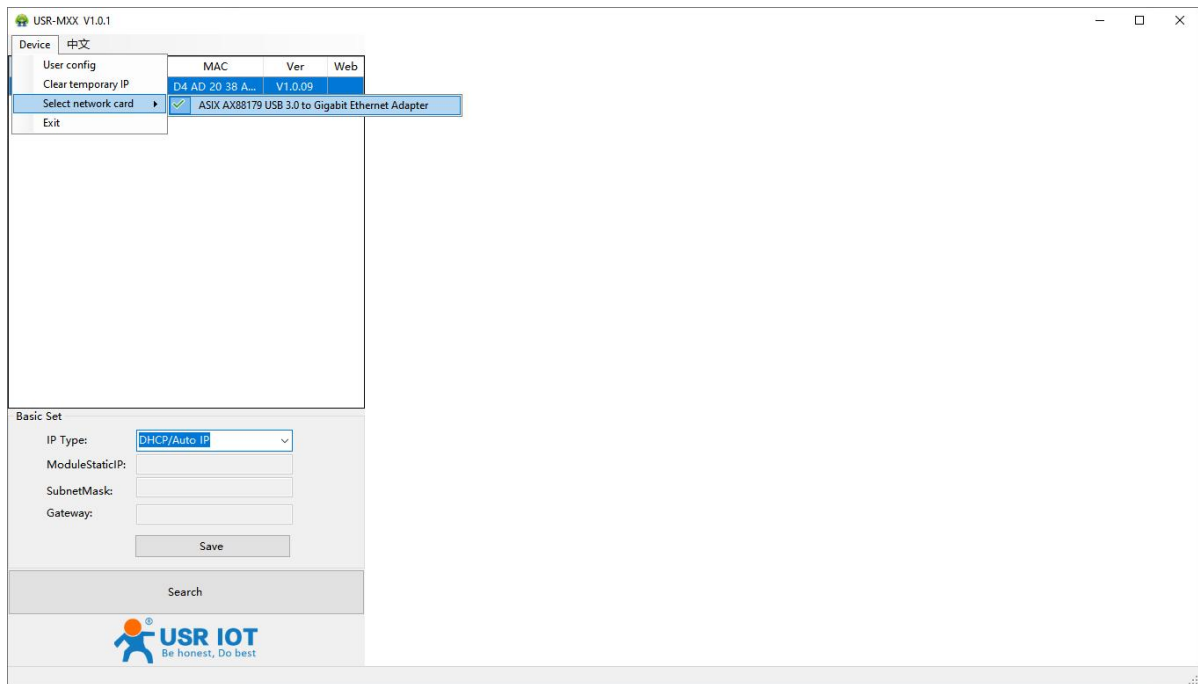

Fig. 29 Searching
USR-M100-HM gateway can support a number of Digital Input (DI), Digital Output (DO-Relays ), Analog Input (AI) ports. There are a few combinations of I/O extension board. Because the I/O status of M100-HM is mainly displayed via Modbus protocol, the user has to configure the Modbus settings if the user wants to use the Modbus protocol. Fig.29 shows the parameter that must be set for the Modbus protocol that is the Modbus Slave ID.